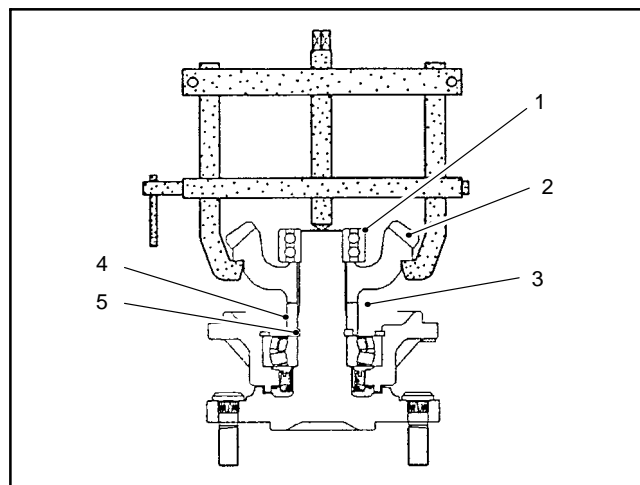

Figure 25
2. Use a bearing puller to remove the bearing and bevel gear as shown (Fig. 25).